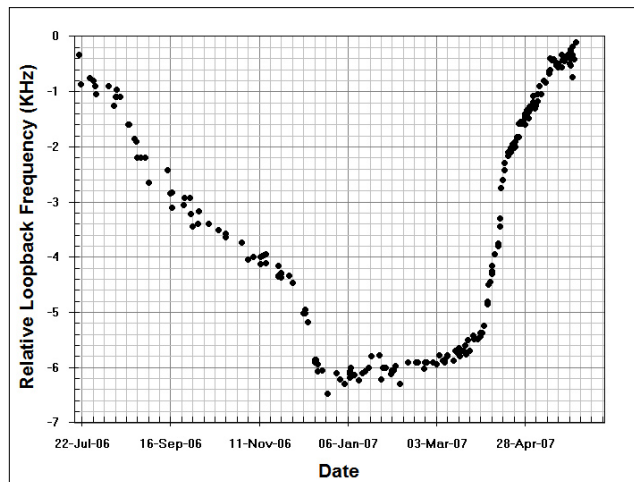
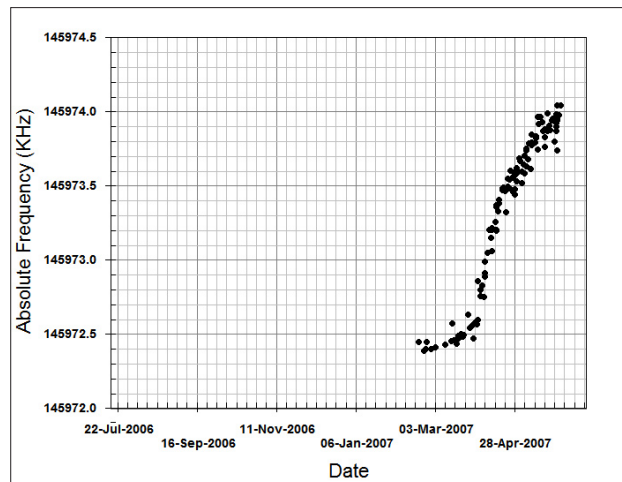

Figure 1. This plot shows the loopback frequency time-series as measured by KG4QWC for AO-7 (mode U/V).
Figure 2. The AO-7 absolute 2-m beacon frequency variation time series as measured by KG4QWC. The x-axis is the same as Figure 1.
** Driven element dimensions are from Figure 1
During 2006 I obtained an Icom IC-910H [1] and SATPC32 [2] to improve my satellite station. SATPC32 allows very easy adjustment of the transmit (Tx) to receive (RX) frequency (loopback) offset to account for any frequency biases. Full Doppler tuning using SATPC32 using the latest spacetrack.org two-line orbital elements was performed for each access through AO-7 (other names are Phase 2B, 7530, and 74089B), which effectively removes the Doppler component from the measurements. Soon after getting SATPC32 configured it was noticed that all the ham linear transponder birds showed different loopback frequency stability behavior. VO-52's loopback frequencies were very stable over time, FO-29 showed some variation as well as larger scatter, while AO-7 was changing at a mildly alarming rate. I began to keep track of the mode (U/V), mode-B, loopback frequency relative adjustment observed for each pass of AO-7, Figure 1. Later, I added monitoring of the 2 m AO-7 beacon frequency, Figure 2.
There was a ramp in the loopback frequency and the 2 m beacon frequency during the 100% illumination period from 2006 December 14 to 2007 April 3, Figures 1 and 2. This ramp was apparently related to the changing distance from the sun during the period. Figure 5 shows the final relationship of loopback frequency variation and AO-7 temperature and it is quite good.